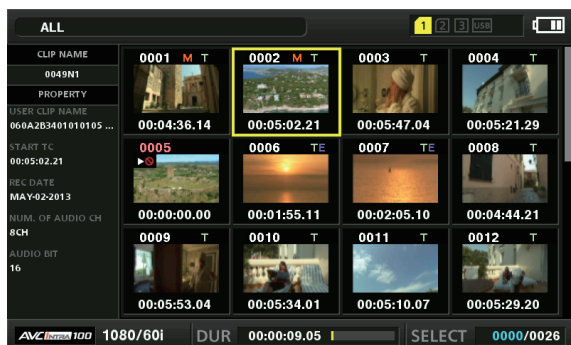

Fig. 1
- 1 Open the thumbnail screen. (Fig. 1)